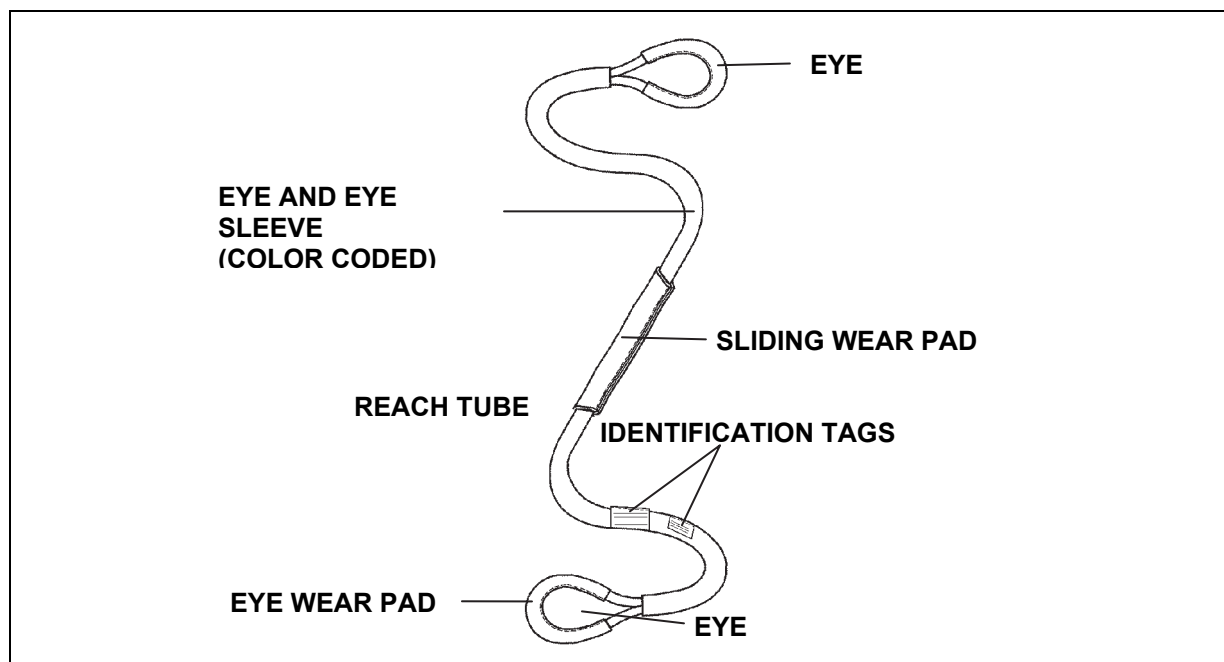

Figure 8-30. Polyester Roundslings
- **Polyester Roundslings.** Polyester roundslings are used as the primary vertical pendant (figure 8-30). Roundslings can be attached to the load using the three hitches described in chapter 6. The lifting capacity of polyester roundslings vary with the size of the sling and the type of hitch used to attach the load. Each sling has two identification tags permanently sewn to the eye and eye sleeve identifying the size and capacity, as well as other important information necessary for the safe use of roundslings. These slings are also color coded to designate the capacity of the sling. Refer to table 8-1 for sling lengths and lift capacities.